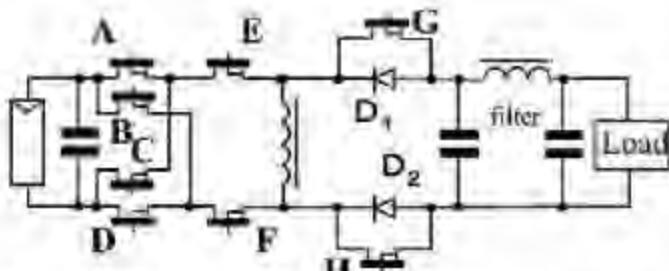

Fig. 8: MI presented by Kusakawa (Kusakawa et al., 1998)
**Multi stage micro-inverters** The early MI were based on a multistage configuration, when in the mid of 90s a team of researchers presented an integrated power processing system with PV and called it an AC module (Wills et al., 1996). Their power rating was 250 W. Following the work by Wills et al. (1996), Kusakawa et al. (1998) presented the concept of transformer less MI in late 90s. Their design was two staged and with the inverter connected directly to the PV module followed by a buck/boost converter as shown in Fig. 8. This provides low input voltage to the switching devices; thus MOSFETs can be used without having much conduction losses.